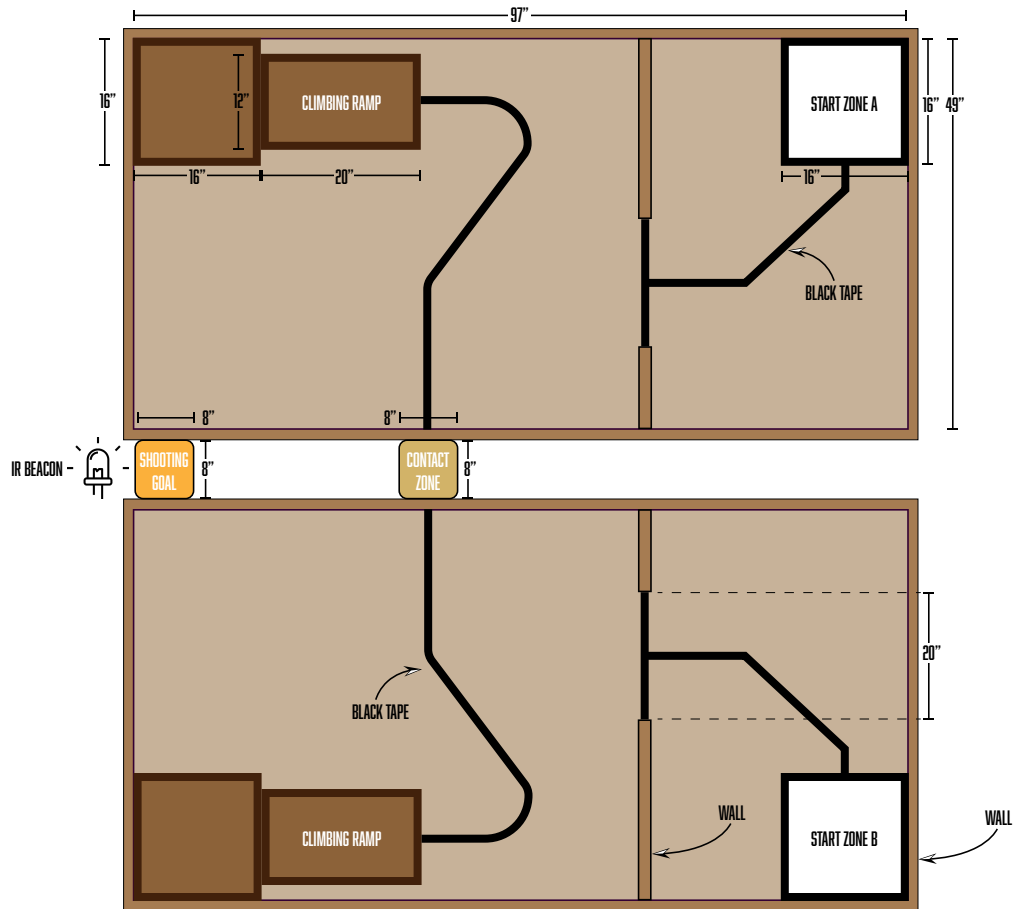

Figure 1: Top view of the field.
- ☐ The field, shown in Figure 1, is constructed from wood and split into 2 sides: an 8 foot by 4 foot area for OCOURSE A and an 8 foot by 4 foot area for OCOURSE B. The two halves will be divided along the 8 foot side, with the CONTACT ZONE and SHOOTING GOAL in between.
- ☐ Black tape will be placed on each half of the field going from the START ZONE to wall opening shown in Figure 1. Additional black tape will lead from the CONTACT ZONE to the start of the CLIMBINB RAMP.